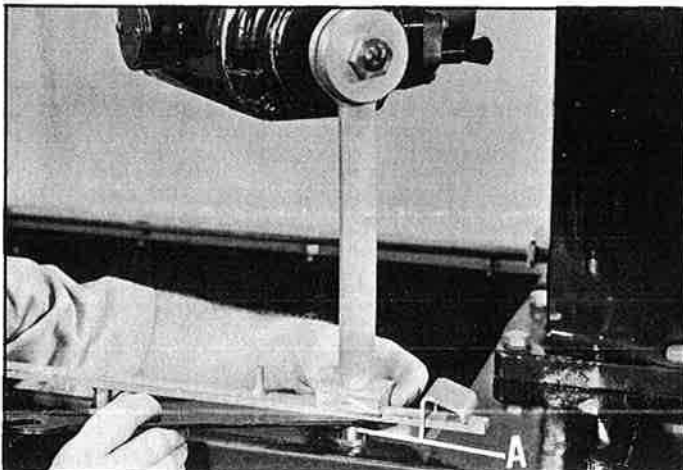

Fig. 14
7. Raise or lower the leveling strip by turning the leveling screw (A) until the wrench just touches the feeler gage, as shown in Fig. 14.